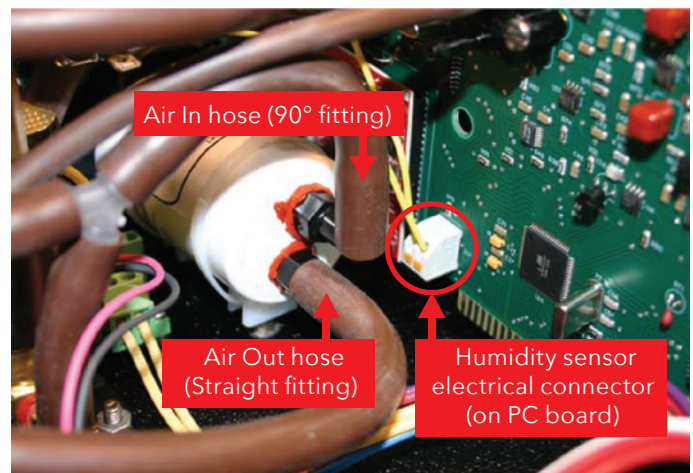

Figure 2. THE TWO HUMIDITY SENSOR AIR HOSES.
4. Using a tubing wrench or vacuum tubing pliers, carefully remove the two air hoses connected to the existing humidity sensor. Refer to Figure 2.